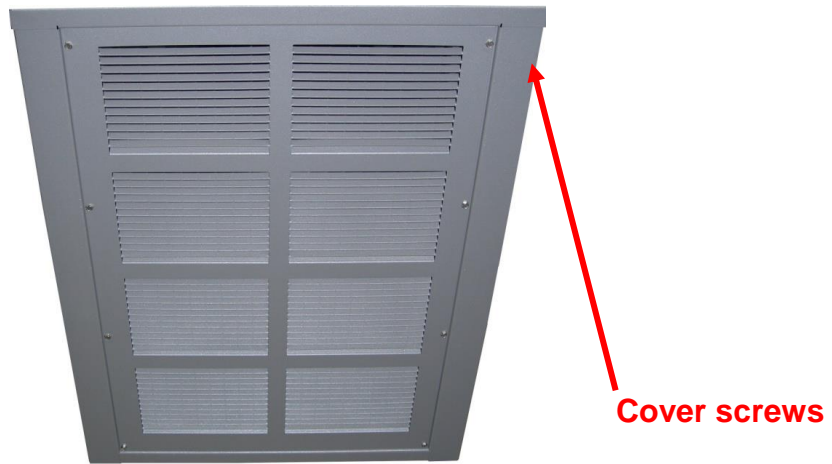

Figure 8: Rear panel
4. Open the rear panel of the charger by removing the eight cover screws (Figure 8).